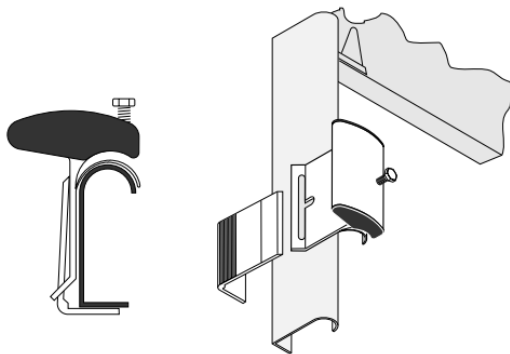

Figure 1
1. Slide the slot of the switch over the beveled-edge of the L-bracket and snap it tightly into place as shown in Figure 1. Screw down firmly.